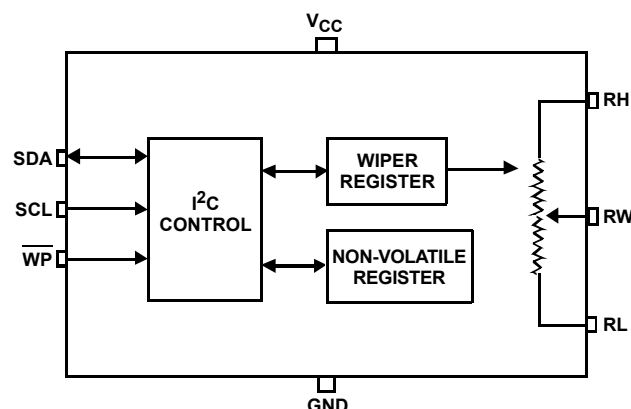

FIGURE 2. ISL95810 BLOCK DIAGRAM
The ISL95810 DCP is low noise, and has a low power I2C bus with 256 taps and is implemented with a combination of resistor elements and CMOS switches. The position of the wiper is controlled by the user through the I2C bus interface. The potentiometer has an associated volatile Wiper Register (WR) and a non-volatile Initial Value Register (IVR) that can be directly written to and read by the user. The content of the WR controls the position of the wiper. At power-up, the device recalls the contents of the DCP's IVR to the WR. A block diagram of the ISL95810 is shown in Figure 21.